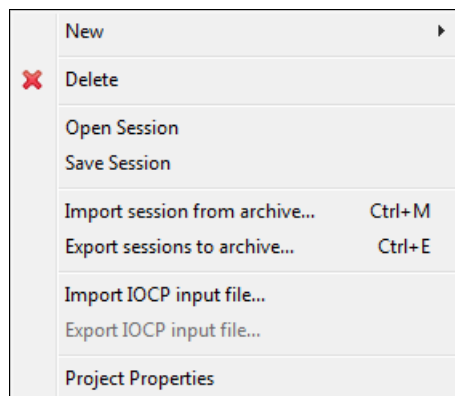

Figure 6-68 CMT - Importing the IOCP file
1. Right-click in the Projects pane and select **Import IOCP input file** (Figure 6-68).